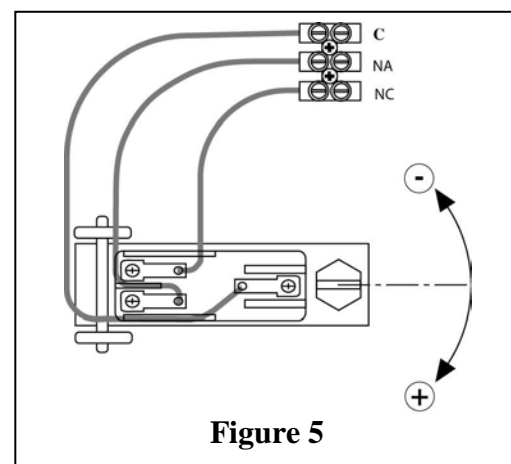

Figure 5
Pressure switches type: 3.26 - 3.27 - 3.30 and differential pressure switches model 3.28 - 3.29 are provided of internal terminal blocks with screws terminals (Figure 5) with cables whose maximum section should be di 2.5 mm2 and terminal block for ground connection both internal and external provided of wire terminal.
1. Connect the micro-switch to warning lamp or a sound source as shown in fig.5 in order to have a clear reference signal of the performance itself;